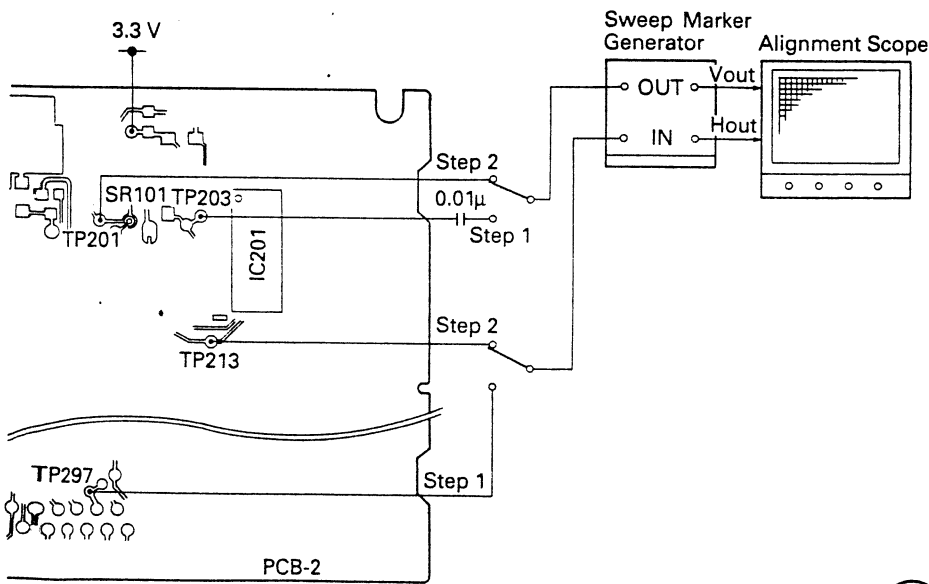

Fig.15
- 8 VIF Alignment (step 1). Fig.15
- 11 AFT Alignment (step 2) Fig.15.
- 1 Short the solder bridge SR101. (Fig.15)